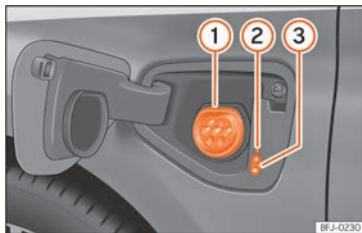

Fig. 226 Behind the battery charging cover on the front left-hand side: Charging socket
» » Fig. 226
- With the vehicle unlocked, the battery charging cover opens when it is pressed » » Fig. 226.